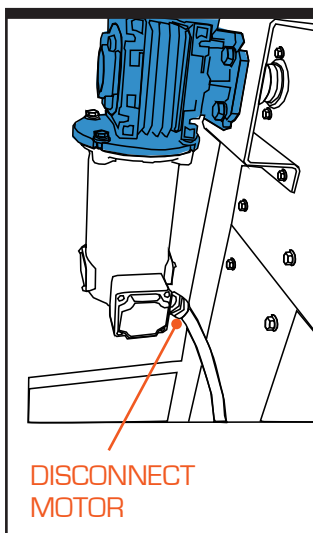

Figure 3-4. Disconnect Power
**Step 2–Disconnect Power and Lockout/Tag Out the Prefeeder.** If power has already been supplied to the prefeeder, first lock out and tag out the power supply, then disconnect the wiring to the drive motor (undo the nut at the base of the motor connection box and disconnect wiring - see Figure 3-4).